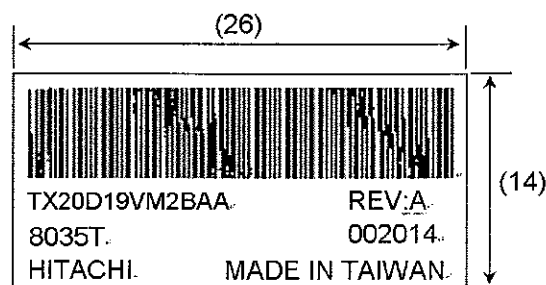

Fig 12.3
4) The location of the lot mark is on the back of the display shown in Fig. 12.3.